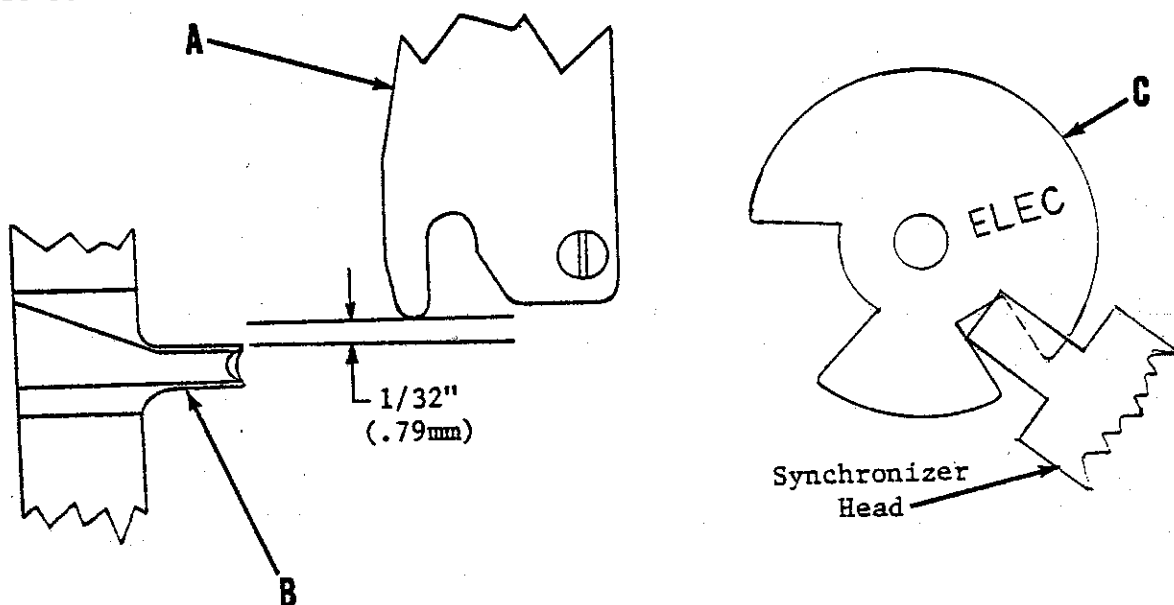

Fig. 38
With power off, turn the handwheel in operating direction until tip of finger of the hook thread deflector (A, Fig. 38) is 1/32 inch (.79 mm) to the rear of the rear edge of positioning finger (B), with needle on upstroke. Rotate the trim disc (C) until the trailing edge of its smaller opening coincides with the left corner of the synchronizer head (Fig. 38). Since the "needle-up" and "trim" discs are in constant contact, recheck NEEDLE-UP POSITION.